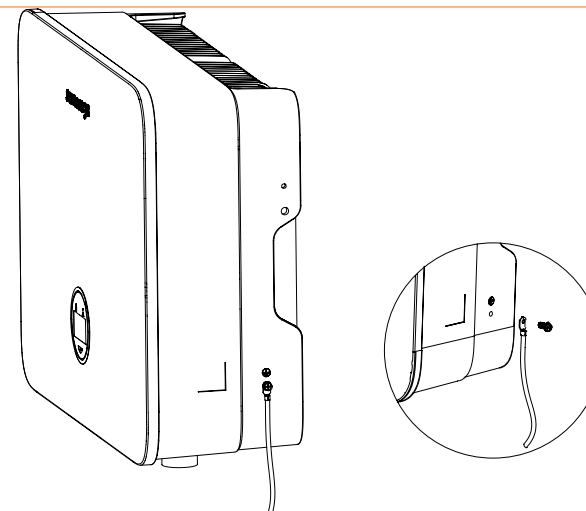

Figure 4-9 Grounding terminal connection
- ① The external grounding terminal is located in the lower right side of the inverter.
- ② Fix the grounding terminal to the PE wire with a proper tool and lock the grounding terminal to the grounding hole in the lower right side of the inverter, as shown in Figure 4-9.
- ③ The cross-sectional area of the external grounding cable is 4mm^2 .